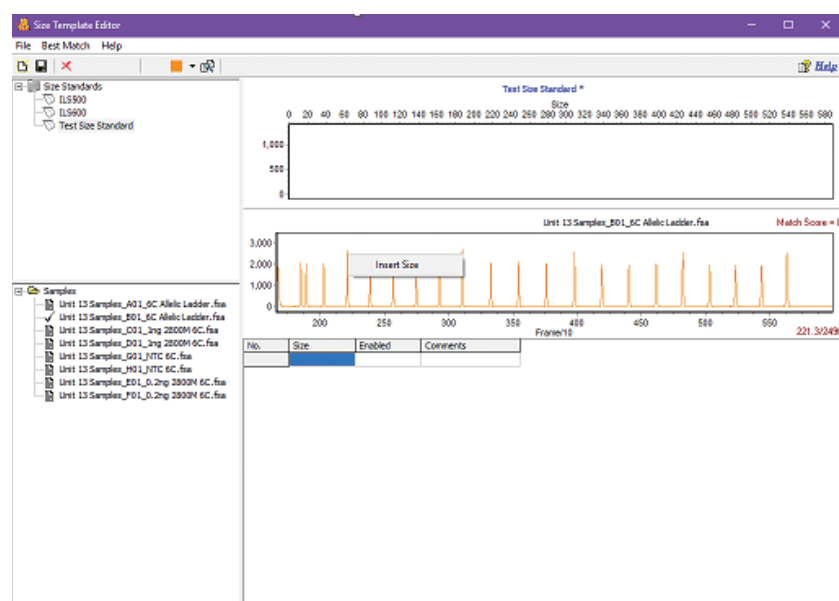

Figure 135. Inserting a size in the Sample Size Standard Chart.
3. To add the size standard fragments displayed in the Sample Size Standard Chart to the new size standard template, right-click on a peak and select **Insert Size** (Figure 135).